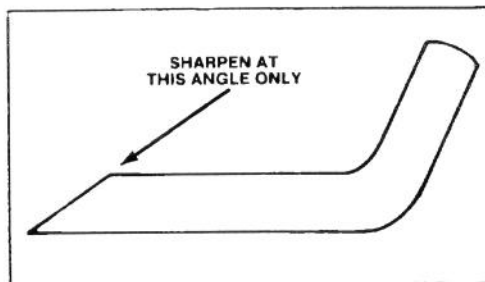

Figure 16
6. SHARPENING BLADE — Using a file, sharpen top side of blade and maintain original cutting angle (Fig. 16). The blade will remain balanced if same amount of material is removed from both cutting edges.